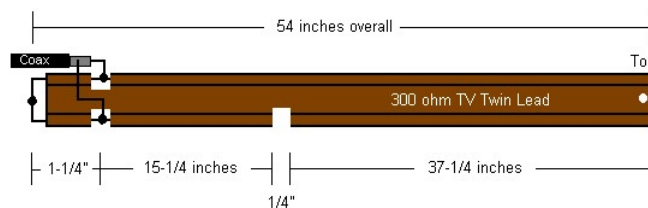

Figure 1. J-pole
- Next, measure up 1-1/4 inches from the bottom and carefully remove the insulation, exposing both wires, as shown in Figure 1. Keep the notches small (1/8" or so) and be careful not to cut the wires. This is where we will be attaching the coax later.
- Now, attach your coax as shown in Figure 1. [*Note: A ferrite bead (type 43 material) can be placed over the outside of the coax near the feedpoint to choke off any RF that might get coupled onto the coax shield. Many plans for this antenna, however, omit the ferrite bead. Your choice. If you experience problems with RF on the rig, go ahead and add the ferrite bead. Alternately, you can wind the coax into a coil of about 5 inches in diameter with 4 turns to create a suitable RF choke.*]